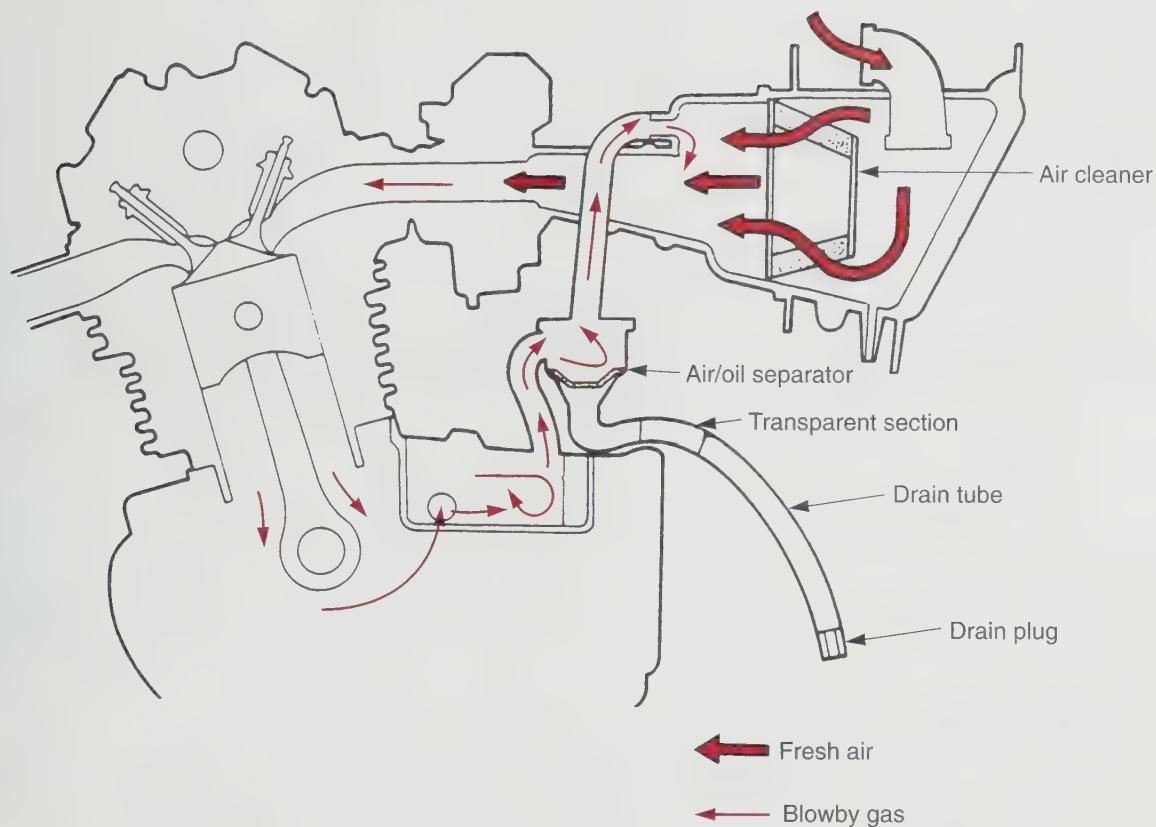

Figure 12-13. Typical crankcase emission control system. (Honda Motor Co., Ltd.)
- **Crankcase emission control system.** This system routes crankcase emissions through the air cleaner and into the combustion chamber, **Figure 12-13**. Condensed crankcase vapors are accumulated in an air-oil separator and drain tube, which must be emptied periodically. Refer to the maintenance schedule in the service manual for each model. The drain tube needs to be checked for oil accumulation more frequently if the machine has been consistently driven at high speeds or in rain.